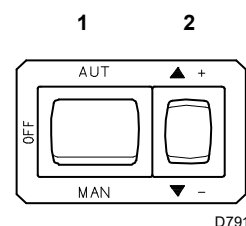

Fig. 25
- Start the burner by closing the control devices and with the switch 1)(Fig. 25 on page 24) in "MAN" position. As soon as burner starts, check the fan rotation direction through the flame inspection window 25).
- The pump can be considered to be primed when the light oil starts coming out of the screw 3). Stop the burner: set switch 1)(Fig. 25 on page 24) to "OFF" and tighten the screw 3).
Turn off the remote controls and set the switch 1)(Fig. 25) to "MAN".
Now press the button 2)(Fig. 25) "+" and keep it pressed until the servomotor has reached 130°.
Press button 2)(Fig. 25 page 24) "Output decrease" and keep it pressed until the servomotor reaches 30° (factory adjustment).
Lightly press the "increase output" button 2)(Fig. 25 on page 24) so the servomotor rotates by about 15°. Adjust the screws until optimal combustion is obtained.